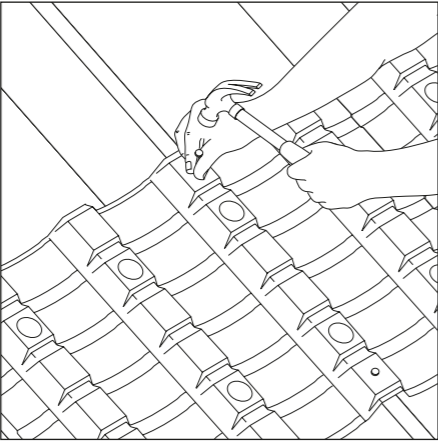

Fig 1
- 2 Pull and adjust to correct rafter centres and twice nail, using 25mm long aluminium nails (Fig 1).